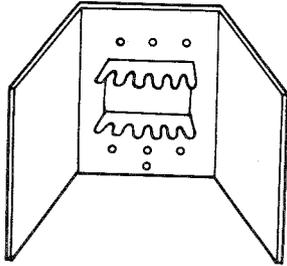

Figure 8— PC Board Retainer.
### (2) Mounting the casing (see Figure 8)